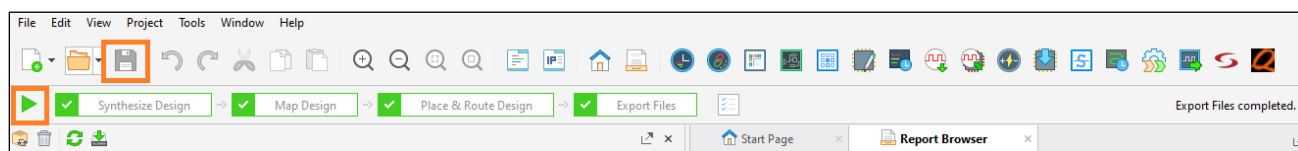

Figure 7.9. Save and Recomilation of the Design
8. Save the design changes and recompile the design as shown in Figure 7.9. Use the configuration bit file located in the new design. The bit file in the original design is available in *Hardware\BasicDemo\Implementation\BasicDemo_Implementation.bit*.